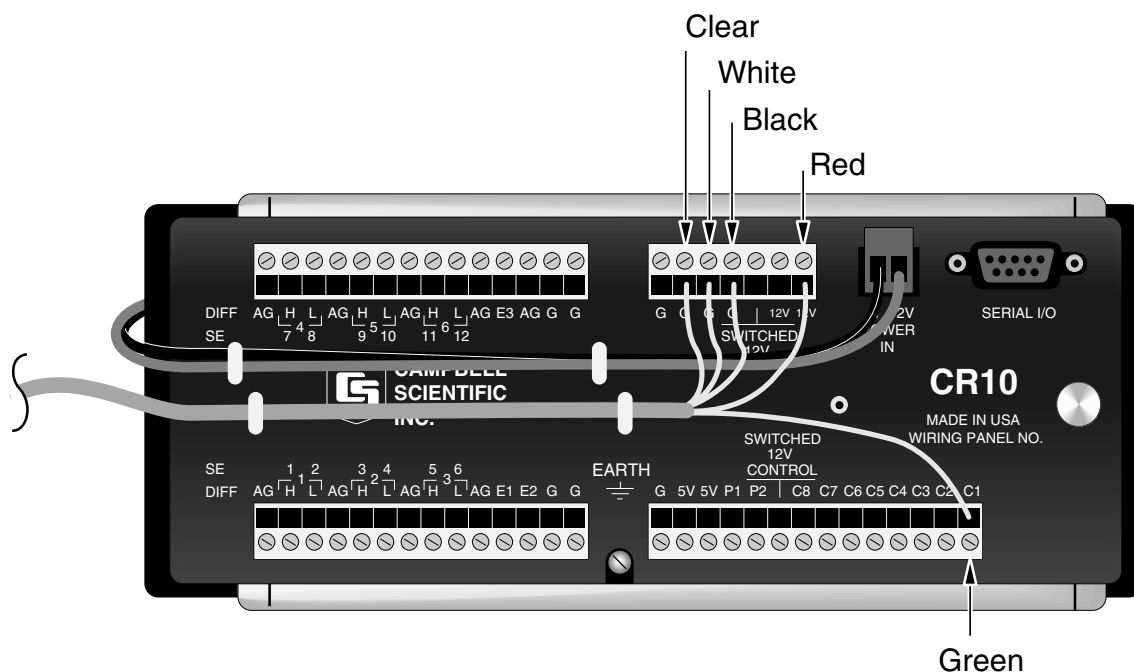

FIGURE 2. SR50 Wiring for CR10(X) SDI-12 Example
In this example, the SR50 is mounted 2 metres above the ground. Snow depth and a quality of measurement number is the desired output. This program uses Instruction 105 (refer to the CR10(X) manual for details on the SDI-12 Recorder Instruction) to obtain a distance measurement from the SR50. The SR50's address is 0. It is assumed that a Campbell Scientific 107 Temperature Probe is used and that the SR50 SDI-12/DATA Bus is wired to control port 1 (see Figure 2).